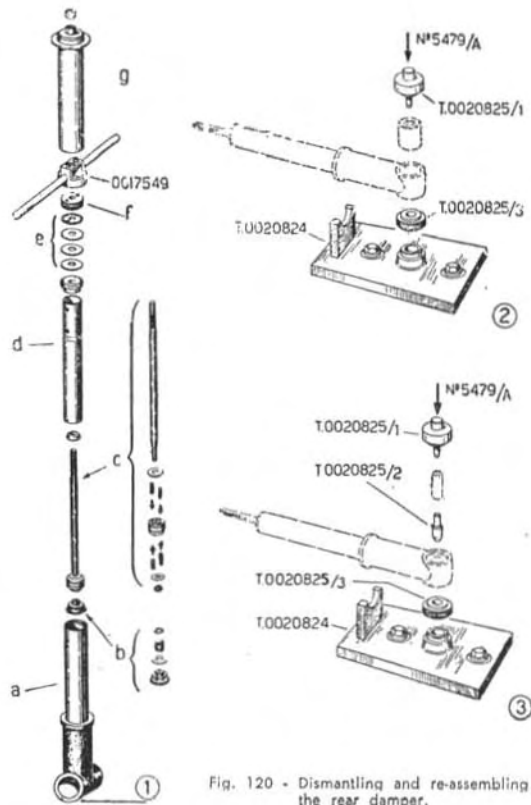

Fig. 120 - Dismantling and re-assembly of the rear damper.
The same procedure applies to the rear hydraulic damper, but the following points should be observed on re-assembly (see also Fig. 120, No. 1).
3. The assembly operation to be carried out with tools T.0020811, T.0018204 and 0018205 refer only to the front hydraulic damper. The rear damper packings can be fitted by hand. If the rubber bushes are to be changed (see Fig. 120, Nos. 2-3) use the tools specified in the figure.